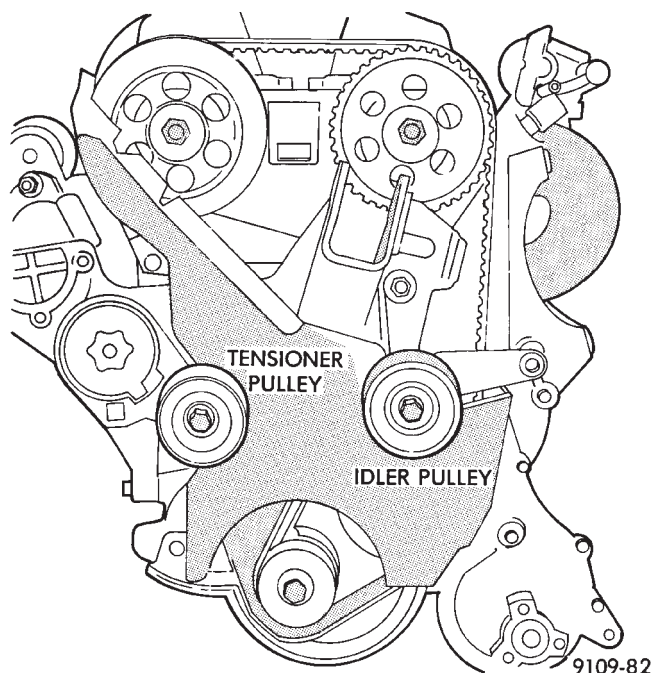

Fig. 4 Timing Belt Cover and Tensioner
(5) Remove lower accessory drive belt idler and tensioner pulley (Fig. 4).
- (1) Raise vehicle on hoist. Install lower timing belt cover and tighten fasteners to 12 N•m (105 in. lbs.) torque (Fig. 4).
- (2) Install accessory drive belt tensioner pulley bolt finger tight. Then tighten bolt to 54 N•m (40 ft. lbs.) torque (Fig. 4).